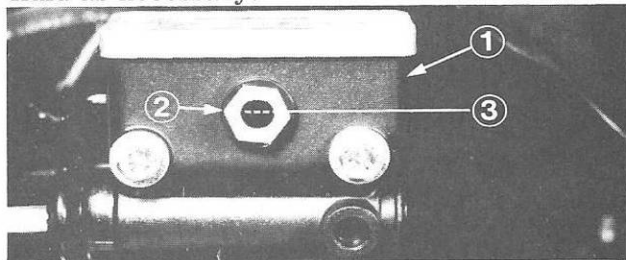

Fig. 38 (1) Fluid Reservoir (2) Level Viewing Window (3) Fluid Level
3. Check the fluid level in the viewing window of the reservoir (Figure 38). It should be half way up the window.